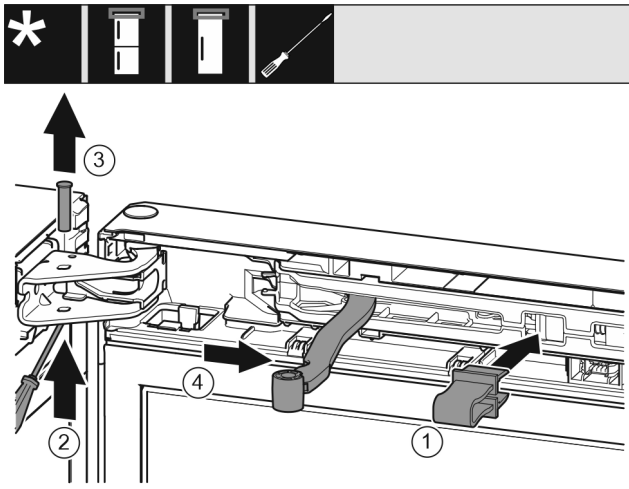

Fig. 8
- Snap the locking device *Fig. 8 (1)* into the opening.
- Pull out the pin *Fig. 8 (2)*.
- Pull out the pin *Fig. 8 (3)* upward.
- Turn the joint *Fig. 8 (4)* towards the door.